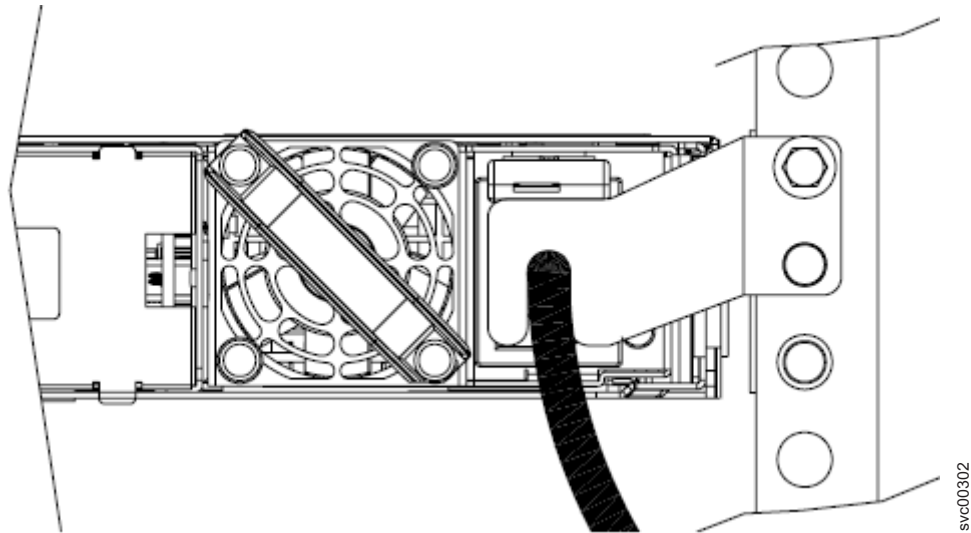

Figure 34. The SAN Volume Controller 2145-8G4 with cable retention bracket option B attached
2. At the back of the cabinet, remove the securing bolt from the node side rail next to the power supply, as shown in Figure 34.